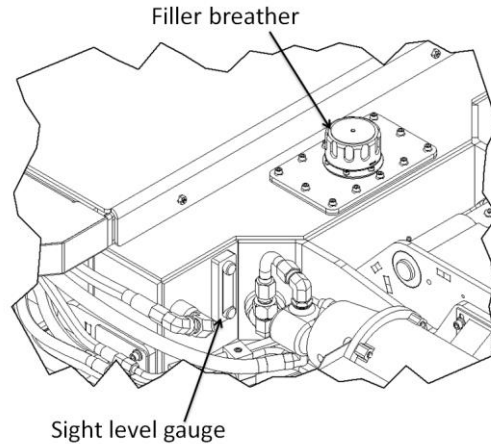
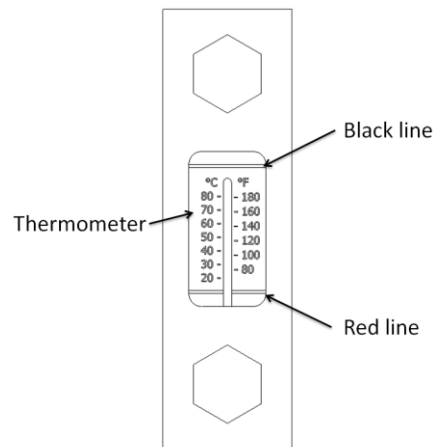

Figure 8 : Hydraulic fluid tank components
Figure 9 : Sight level gauge details
2. Locate the sight level gauge on the hydraulic fluid tank (see Figure 8). The level should be slightly above the black line of the gauge (see Figure 9). If the level is too low, add hydraulic fluid following the next steps.
3. Remove the filler breather (see Figure 8) and add hydraulic fluid until the level reaches the black line of the sight level gauge (see Figure 9).